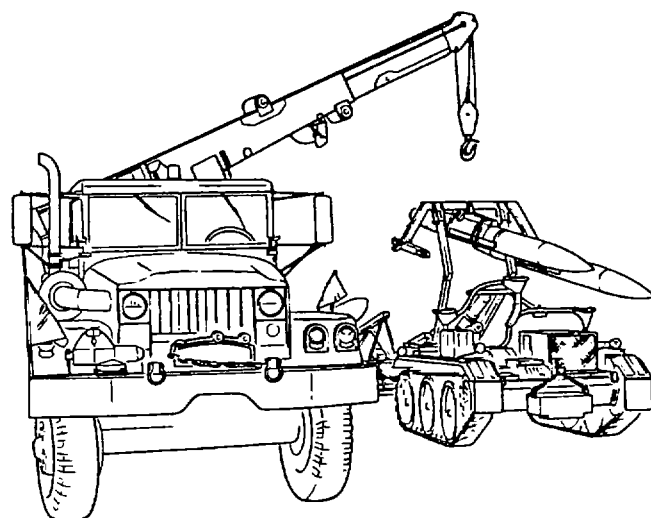

Figure 6-20. Wrecker in Place Next to Loader.
(11) Remove straps from C (driver's left) missile only.
(12) Lower C missile on pallet, latch to pallet and release latch on missile C.
(13) Return superstructure with remaining two missiles (driver's right and center) to center azimuth position.
(14) Position 5-ton wrecker for heavy lift, side, in accordance with wrecker operator's manual. Position wrecker to the loader so that loader superstructure yoke is centered directly under the wrecker boom (figure 6-20).